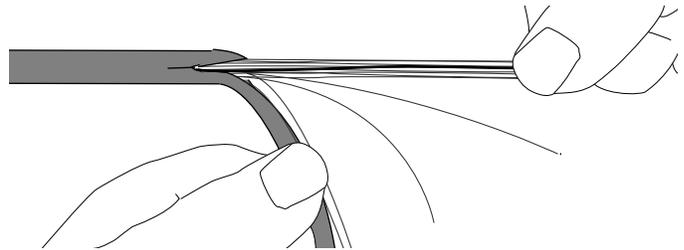

Figure 4
4.3 Separate the split sheath from the aramid yarn, fibers and rip cord (Figure 4).